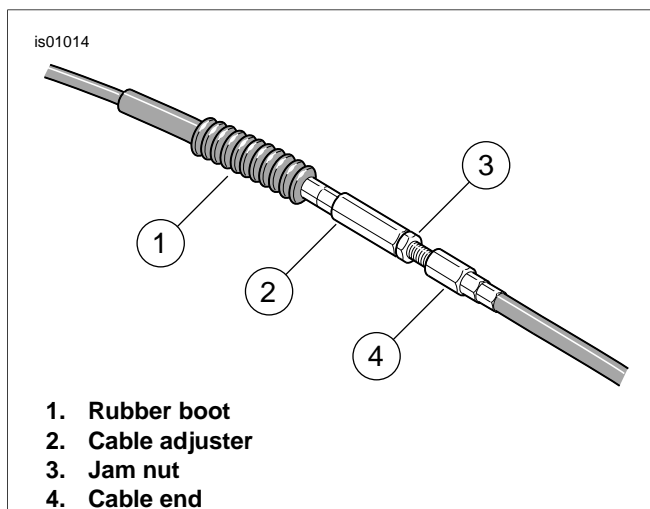
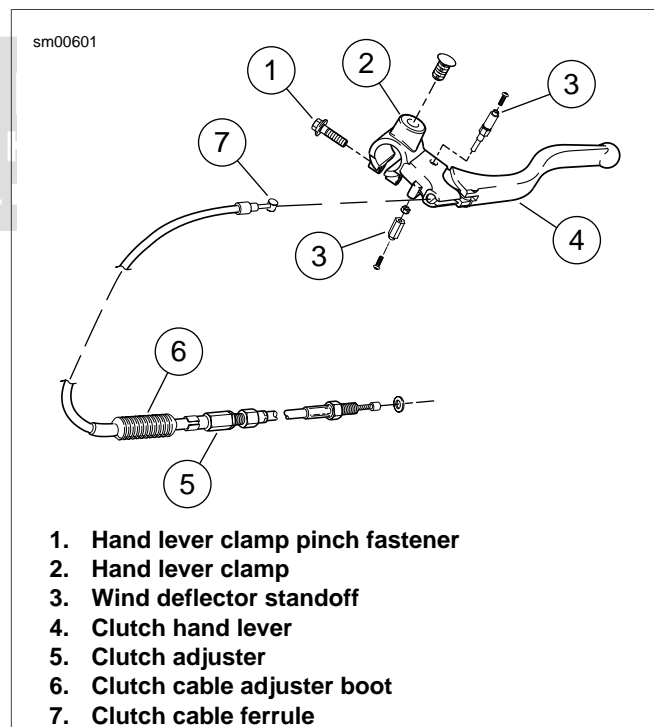

Figure 2-131. Clutch Cable Adjuster
Figure 2-133. Clutch Hand Control Assembly
4. Remove front tie bar (1) from "V" bracket.
5. Remove front tie bar, P-clamp (2) and clutch cable from engine.
6. See Figure 2-131. Slide clutch cable adjuster boot (1) up to access clutch adjuster (2).
7. Loosen clutch adjuster (2) to release tension from hand lever and clutch release mechanism.
8. See Figure 2-133. Remove clutch cable ferrule (7) from hand lever (4).
10. See Figure 2-133. Connect clutch cable ferrule (7) to hand lever (4).